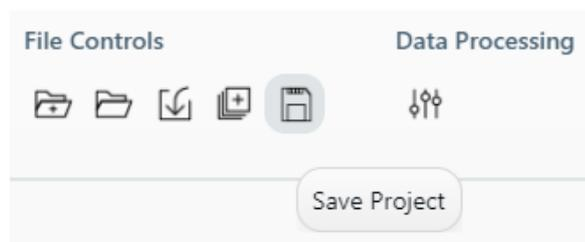

Figure 22. Save Project icon in IDS2.
1. If you have unsaved changes, click the 'Save Project' icon in the File Controls section of the menu bar (Figure 22).